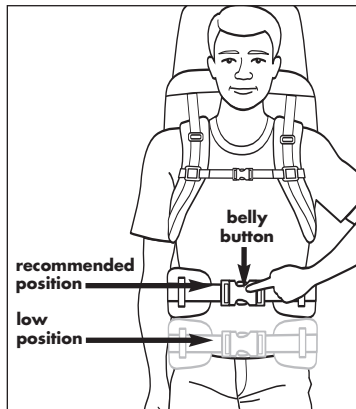

Figure 2A
B. NEXT put the pack on and tighten the waistbelt. Make sure you place the waistbelt in the proper location (Figures 2A & 2B).
It is recommended to wear the belt on hip bones, just under the rib cage. If you still prefer to wear the belt low, add one to two inches to your torso length measurement. Figure 2A shows both the preferred placement of the waistbelt and an example of a belt worn low. The low position is not recommended. Once positioned correctly, tighten the belt to prevent it from sliding. (A good rule of thumb is to have the belt buckle approximately over your belly button.)